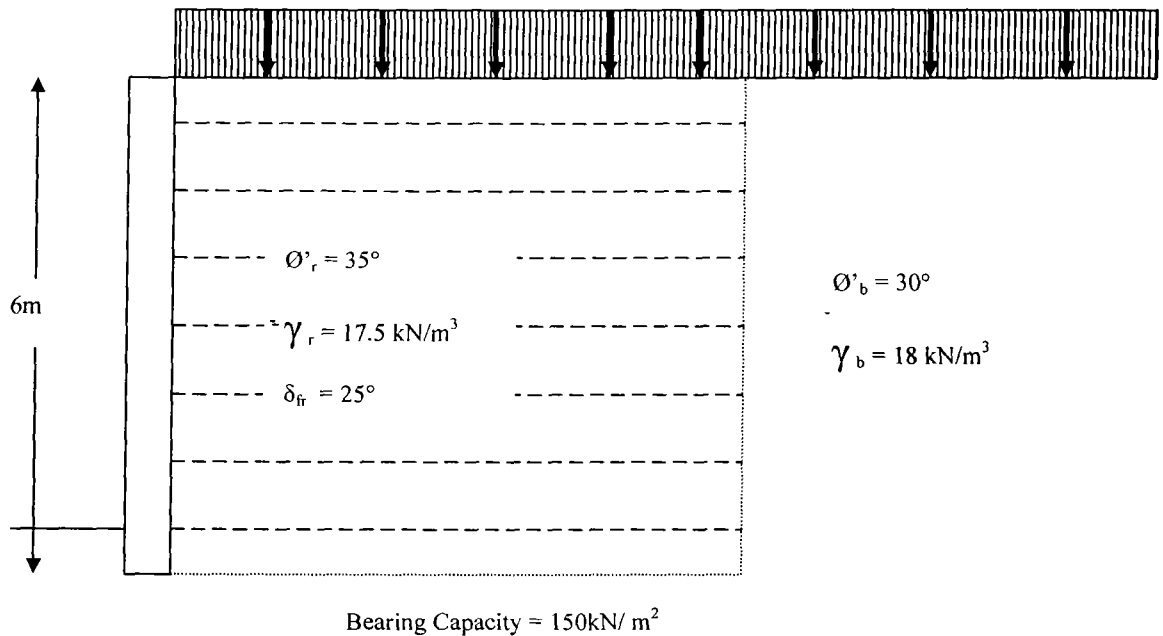

Figure 1 : Geogrid-reinforced wall
- (c) Design a 6m high reinforced wall as sketched in Figure 1 where the vertical reinforcement spacing is limited to 1m since the wall facing is of precast segmented concrete panel type. The coverage ratio, $C_r = 0.8$. The length-to-height ratio of the reinforced soil wall should not be less than 0.7. Calculate Factor of Safeties against sliding, overturning, foundation's bearing capacity and vertical spacing. Additional details of the problem are given below :